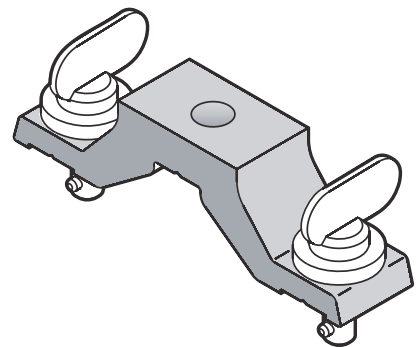

Figure 4: Omega bracket
1. See Figure 4. Bolt any safe type of rigging clamp (see "Accessories" on page 38) to a Martin omega bracket, P/N 91602001 with an M12 grade 8.8 bolt passed through the hole in the omega bracket and secured with an unworn self-locking nut.